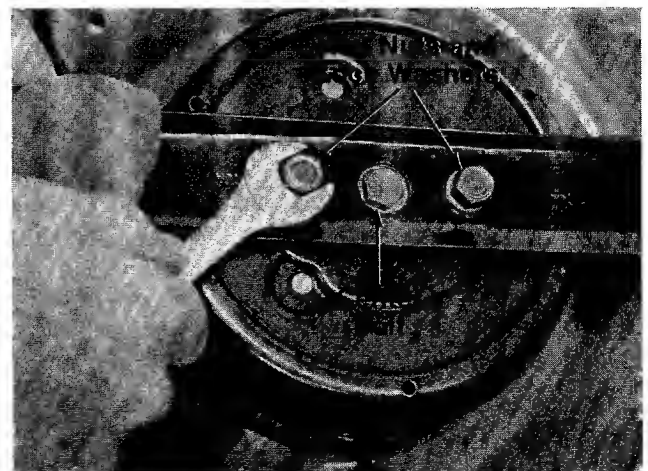

FIGURE 13.
To remove the cutting blade for sharpening or replacement, remove the two hex nuts and lock washers which hold the blade to the blade brake/clutch. See figure 13.
7. Tip the mower on its side. Remove the blade by removing two hex nuts and lock washers. Refer to figure 13.